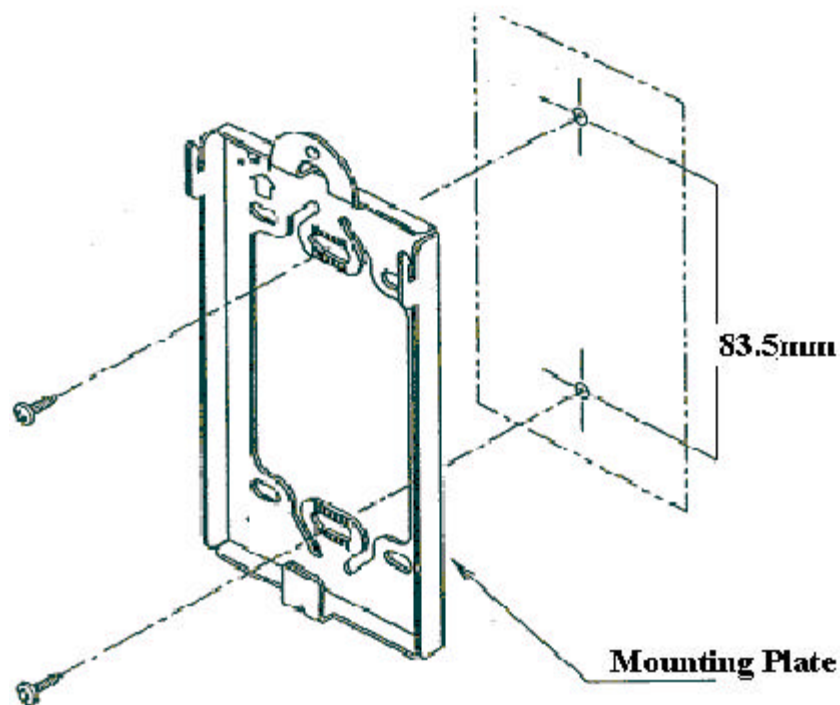

Figure 3-9: Indoor RP Mounting Plate
2. Attach the mounting plate to a wall with 2 screws as shown in Figure 3-9.